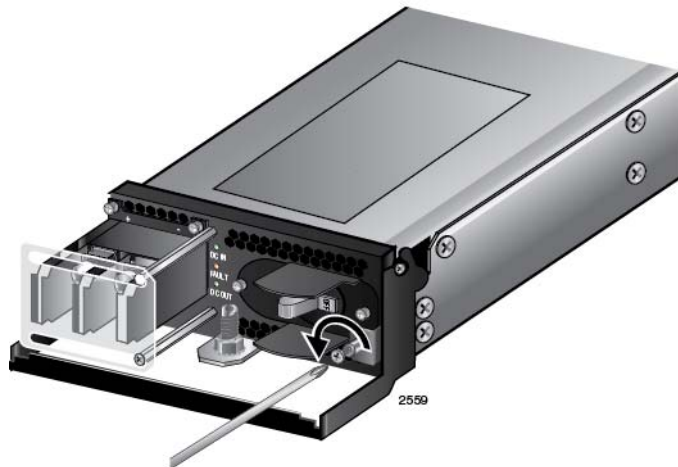

Figure 55. Loosening the Handle locking Screw on the AT-SBxPWRSYS1 DC System Power Supply
5. With a #2 Phillips-head screwdriver, loosen the handle locking screw on the power supply, as shown in Figure 55.